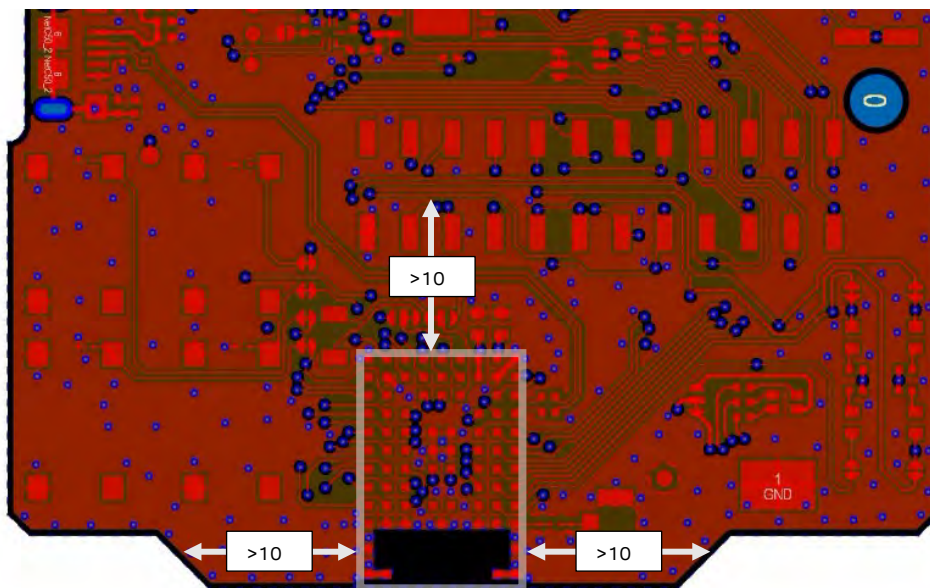

Figure 5: Extend GND plane outside the NORA-B106 and NORA-B126 modules
- A large ground plane on the host PCB is a prerequisite for good antenna performance. It is recommended to have the ground plane extending at least 10 mm on the three sides of the module that are not against the edge. See also Figure 5.